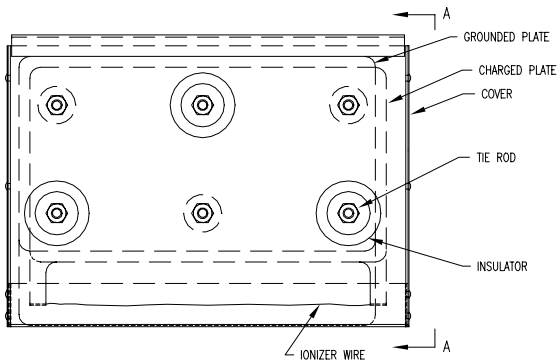

FIGURE 6-1 Ionizing Collecting Cell
- d. Clean insulators with a cloth or soft brush. (See figure 6-1.)
- e. Remove any accumulation of ionizing-wires with lint-free cloth. (See figure 6-1.)
- f. Inspect cell for bent or misaligned collector plates that could cause electrical arcing. Ensure there are no broken or missing ionizing wires. Replace wires in accordance with paragraph 6-4.2. (See figure 6-1.)